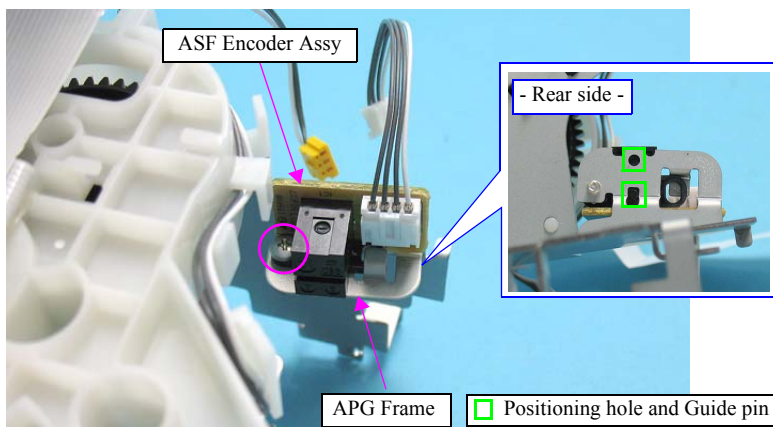

Figure 4-129. Removing the ASF Encoder Assy (2)
- When installing the ASF Encoder Assy, insert the two guide pins of the ASF Encoder Assy into the holes of the APG Frame as shown in Figure.4-129.
- Align and attach the ASF Encoder Cover with the marking shown in Figure.4-129.